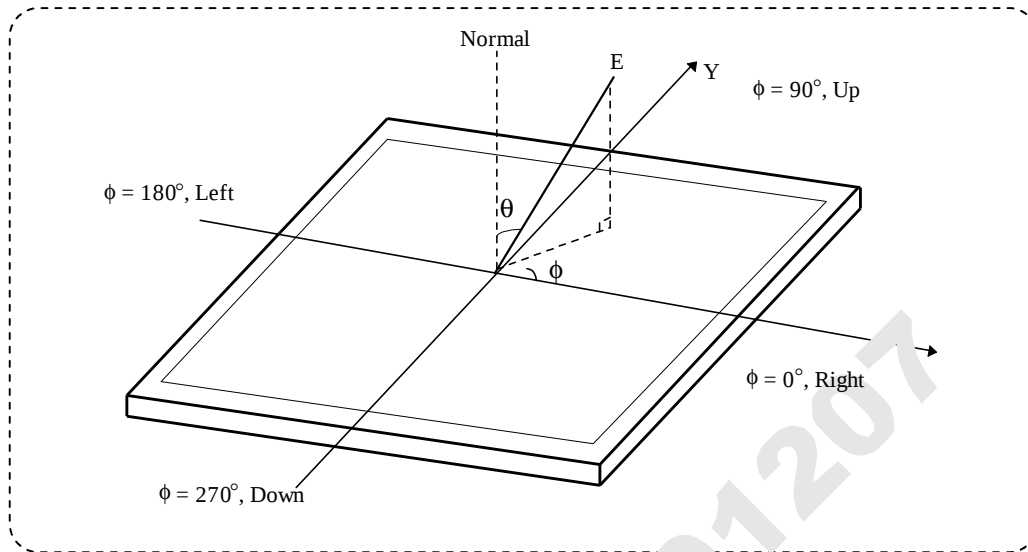

FIG.10 Viewing angle
6. Viewing angle is the angle at which the contrast ratio is greater than 10. The angles are determined for the horizontal or x axis and the vertical or y axis with respect to the z axis which is normal to the LCD surface. For more information see FIG.10 (By PR880)